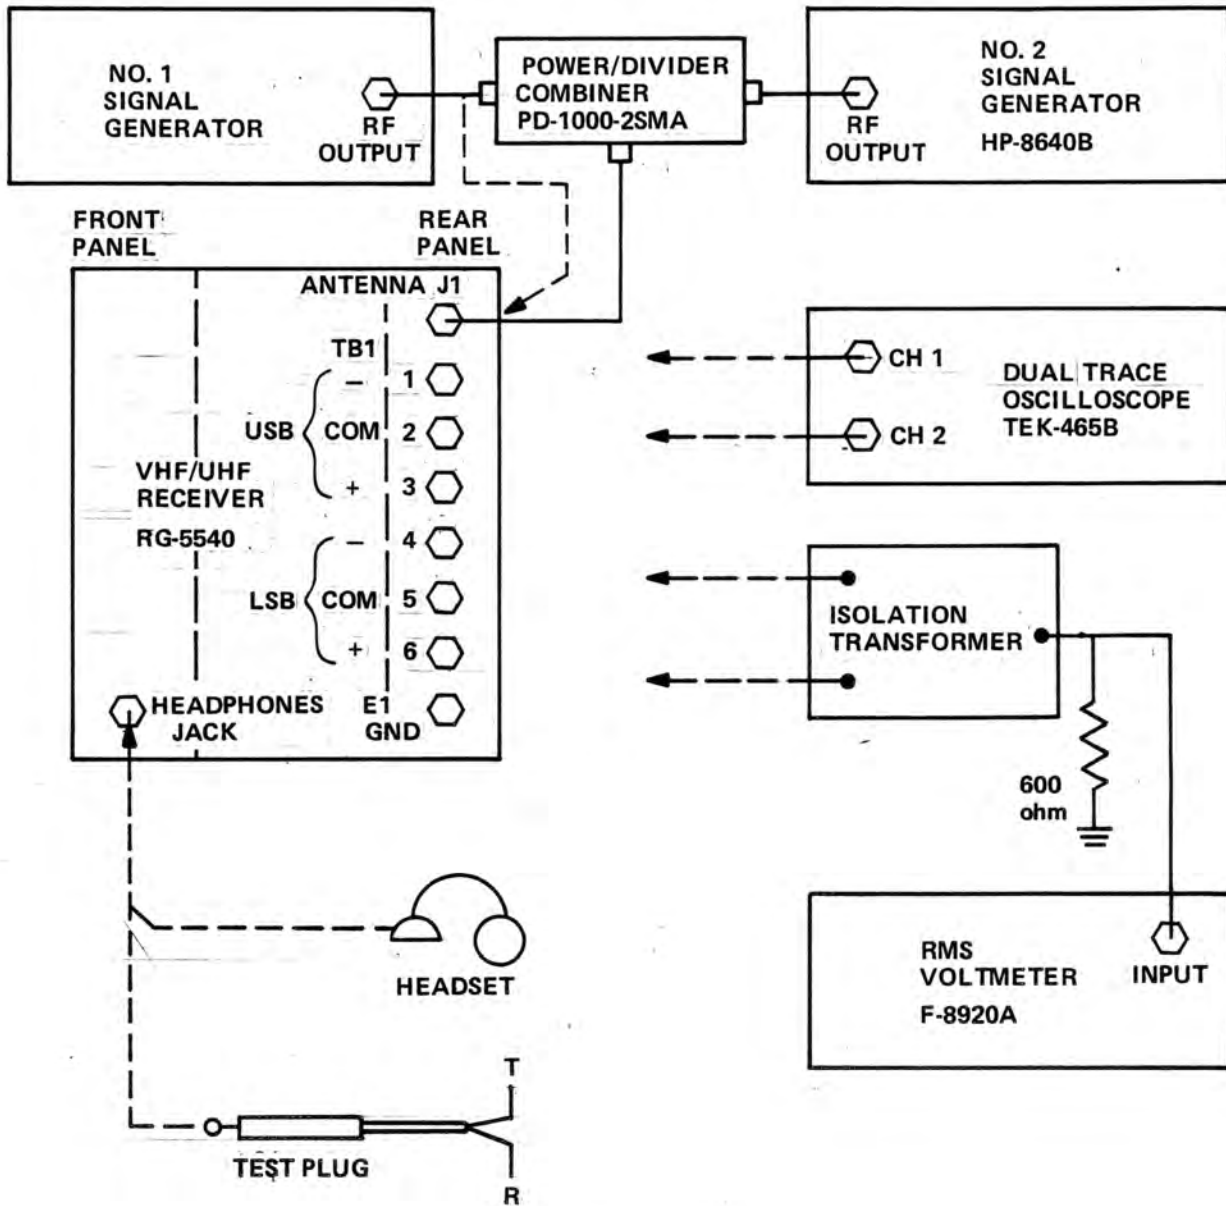

Figure 5-5. Audio Output Test
1. Connect the test equipment as shown in Figure 5-5 with oscilloscope connected to HEADPHONES jack with tip to channel 1 and ring to channel 2 and signal generator number 1 connected directly to Antenna J1.
18. Refer to Figure 5-5 and connect the two signal generators through the power combiner to ANTENNA-J1 on the Receiver and tune Receiver to 60.00000 MHz.
27. Disconnect oscilloscope and connect single signal generator to ANTENNA J1. Connect RMS voltmeter between TB1 and TB3 through isolation transformer as shown in Figure 5-5.